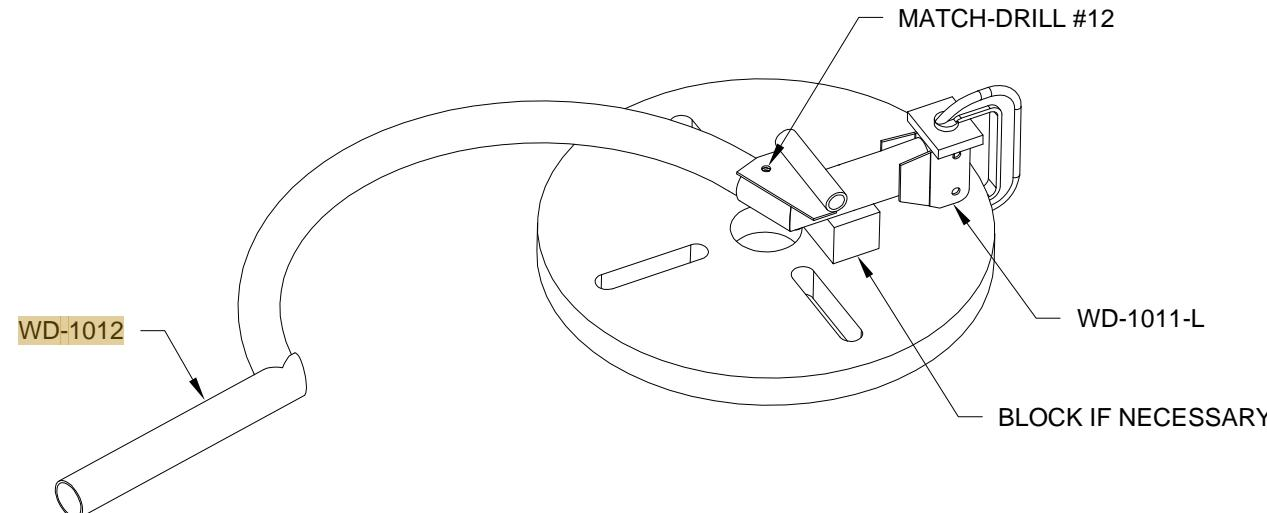

FIGURE 1: MATCH-DRILL CONTROL STICKS WITH CONTROL STICK BASES
Step 1: Clamp the **WD-1011-L** Left Control Stick Base to a drill press table as shown in Figure 1. Insert a **WD-1012** Control Stick into the control stick base as far as it will go. Rotate the control stick until it is planar with the surface of the table. Match-Drill #12 through the assembly using the hole in the control stick base as a guide. Support the control stick base with a block if necessary. Disassemble the parts and deburr. Repeat this step for the **WD-1011-R** Right Control Stick Base and the other control stick.